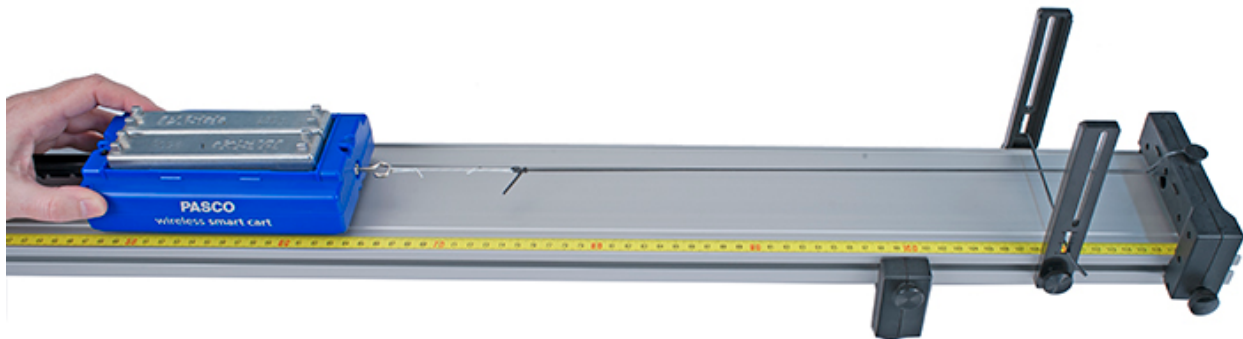

Figure 1: Setup with Elastic Cord Tied to Hole in Endstop
1. Install the Elastic Bumper and adjustable feet to the track as shown in Figure 1. Attach an endstop to each end of the track
6. Tie a short loop of string to the hook on the Smart Cart as shown in Figure 1. Cut a 35 cm long piece of Elastic Cord, and tie it onto the endstop through the endstop hole and the loop of string as shown.